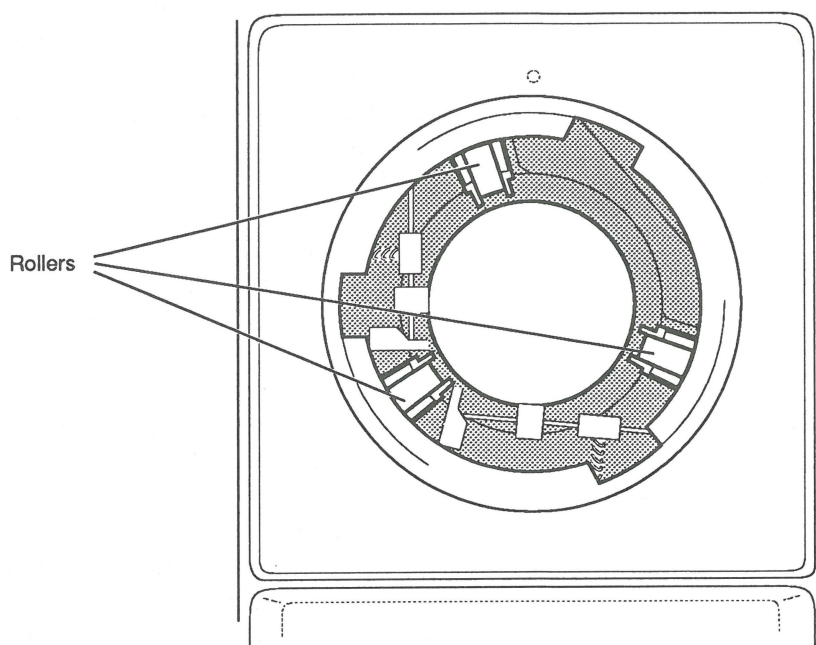

FIGURE 14
3. **Figure 14.** Locate the rollers inside the trackball assembly.
- IPL.25 Backlit Display Upgrade (Figure 14)